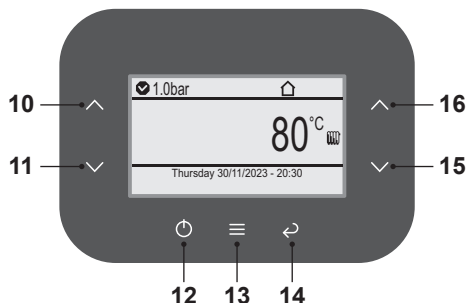
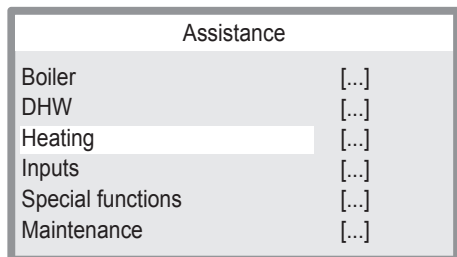
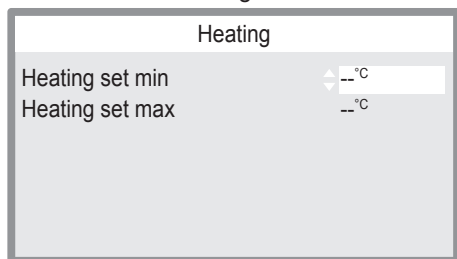

Fig. 8.22
Fig. 8.25
Fig. 8.26
- Press key 13 (Fig. 8.22) to go to the main menu (Fig. 8.23).
- Press key 10 or 11 (Fig. 8.22) to select the desired menu (Fig. 8.24).
- Press key 13 (Fig. 8.22) to access the selected menu (Fig. 8.25).
- Press key 10 or 11 (Fig. 8.22) to select the desired menu from those available (Fig. 8.26).
- Press key 13 (Fig. 8.22) again to highlight the value to be changed.
- Press key 13 (Fig. 8.22) to confirm the change or key 14 to exit without changing the value (return to previous level).